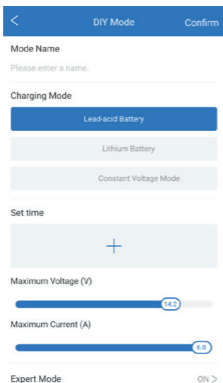

Figure 3.3.2
3. Tap add mode, you will see the following screen. Here you can choose the battery type, reserve charging time, and adjust the maximum charging voltage and current. (See figure 3.3.2)